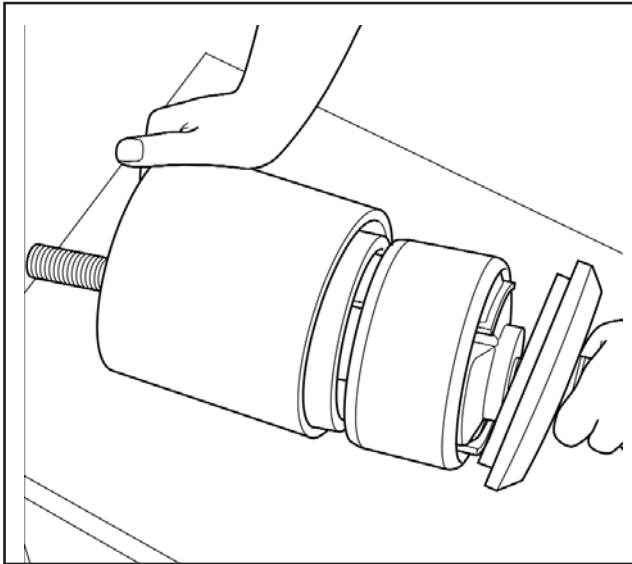

Fig 4.32
16. Dismantle the tooling and remove the pivot bush from the funnel "D" (Fig 4.32).